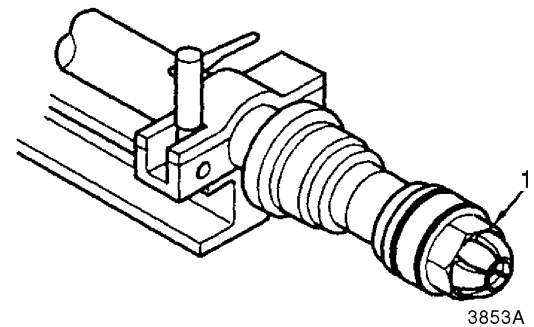

Figure 35
20. Install piston nut (1, Figure 35) and tighten it with an impact wrench. Then use a torque wrench to tighten nut (1) to specified torque.